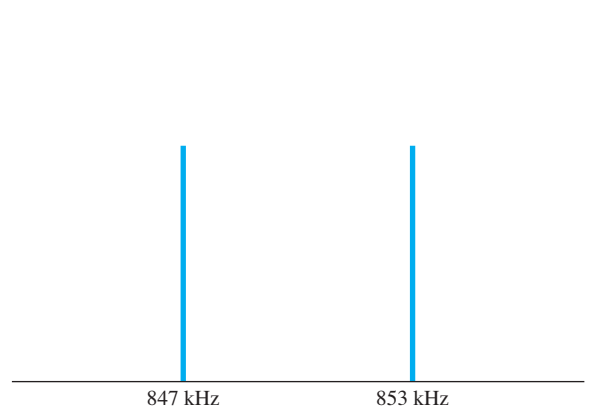

FIGURE 13-55
15. The frequency spectrum in Figure 13-55 is for the output of a balanced modulator. Determine the carrier frequency and the modulating frequency.